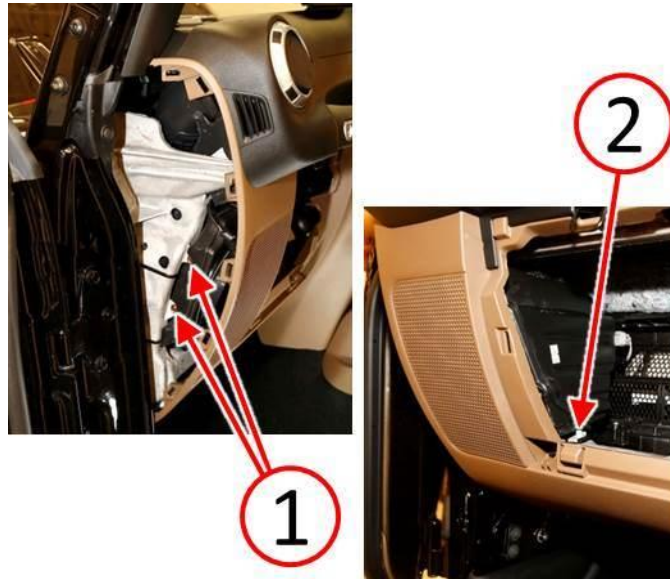

Fig. 10 Instrument Panel Left Side Speaker Fasteners
25. Install the left speaker mounting fasteners. Two fasteners (1) are located at the left side of the instrument panel and one fastener (2) is located at the lower left corner of the glove box opening (Fig. 10).